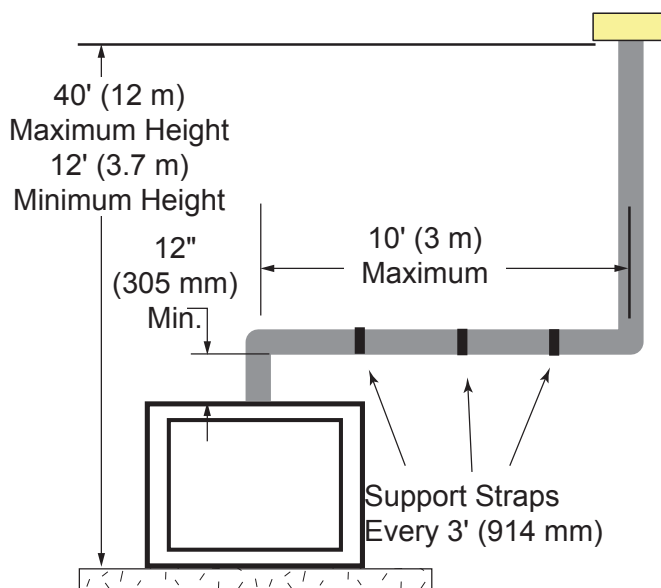

Figure 5.11 - Support Straps for Horizontal Runs
- Vertical installations up to 40' (12 m) in height. Up to a 10' (3 m) horizontal vent run can be installed within the vent system using a maximum of two 90° elbows. Figure 5.11